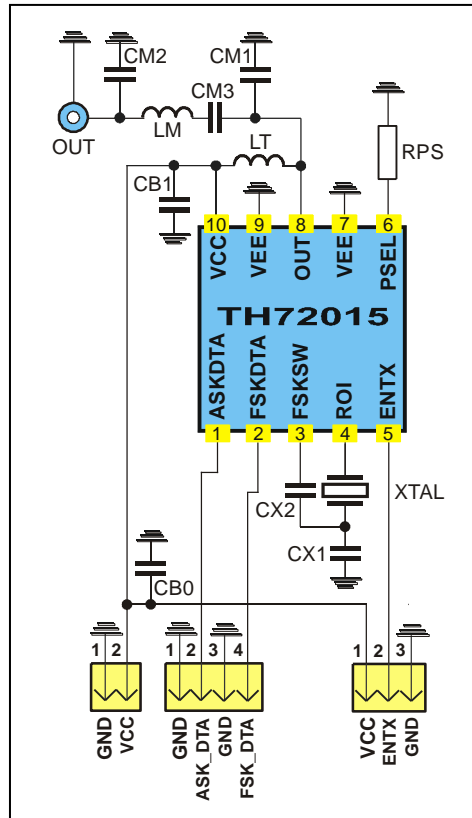

Fig. 18: Test circuit for FSK and ASK with 50 Ω matching network
typical values at  $T_A = 23\text{ °C}$  and  $V_{CC} = 3\text{ V}$ ; test circuit shown in Fig. 18,  $f_c = 433.92\text{ MHz}$
- Data according to test circuit in Fig. 18
**6.1. Test circuit component list to Fig. 18**